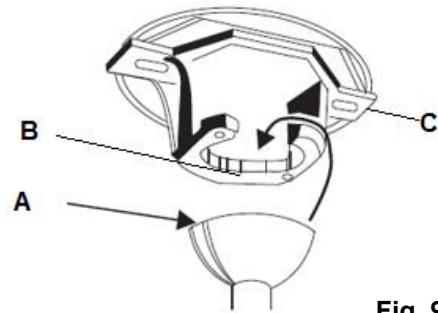

Fig. 9
Lift the fan assembly onto the mounting bracket. Ensure the key slot (A) of the hanger ball is positioned on the key pin (B) of the mounting bracket (C) to prevent the fan from rotating when in operation. **Fig.9**
1. Hang the complete fan assembly onto mounting bracket. (Fig. 9)